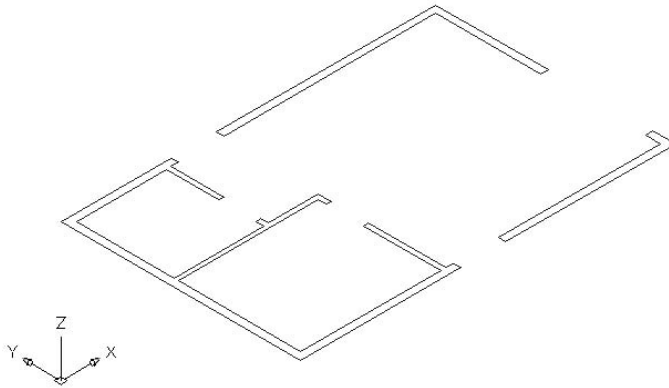

FIGURE A.2: The walls as seen from the SW Isometric view
3. Now you'll change the view from a plan view of the drawing—looking straight down at it—to one in which you are looking down at it from an angle. Choose View > 3D Views > SW Isometric. (SW means from the southwest.) The view changes to look like Figure A.2. Notice how the UCS icon has changed with the change of view. The X and Y arrows still run parallel to the left side and bottom of the cabin, but the icon and the floor plan are now at an angle to the screen. And the Z axis is visible.